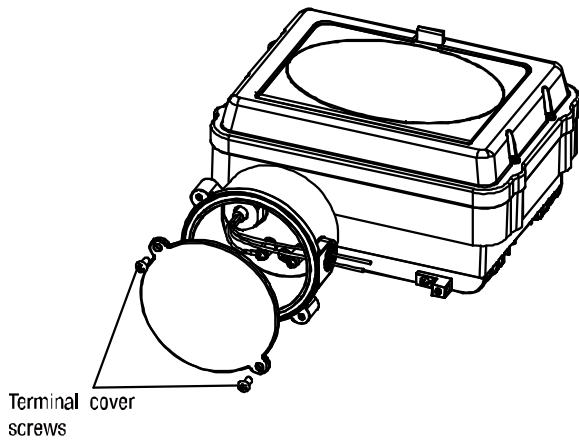

FIG. 1
- Remove the terminal box lid (FIG.1)